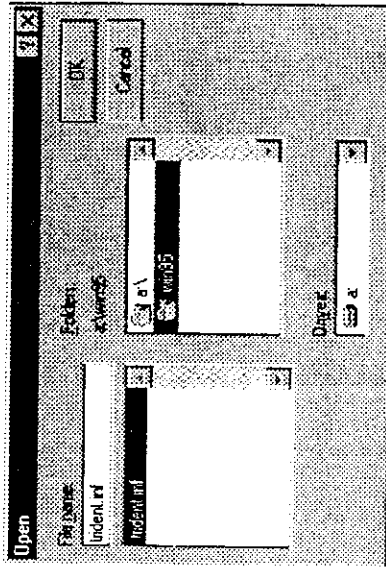

Figure 3-5.
6. After the "Have Disk" button is selected, an "Install From Disk" window will appear. SELECT the "Browse" button to browse the directory "X:\WIN95" of your diskette drive where X: stands for the drive letter of your diskette drive in your system (refer to Figure 3-5).